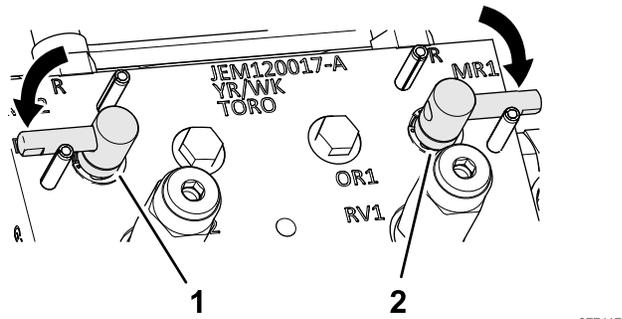

Figure 118
3. Move the backlap levers to the F (mow) position (**Figure 118**).